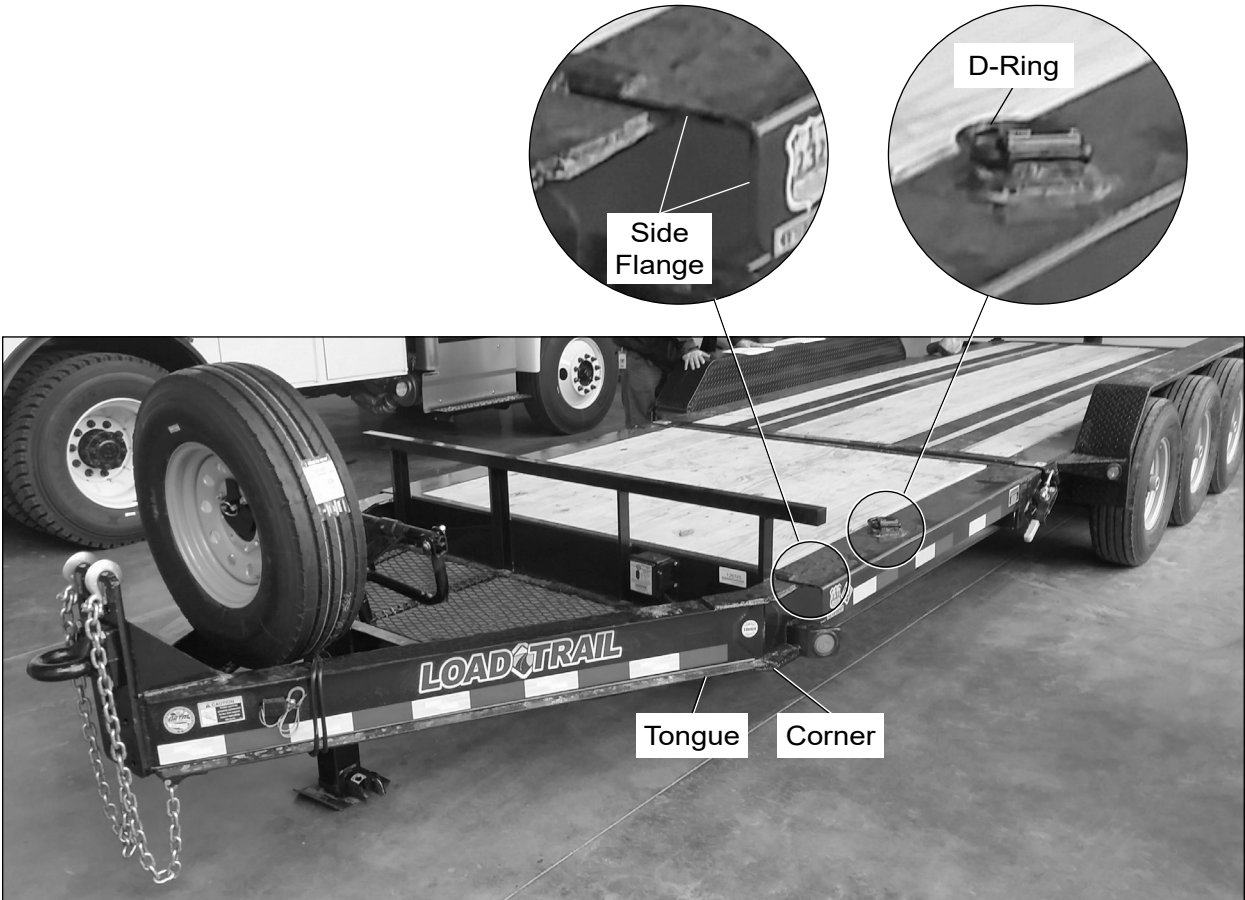

Figure 9 – Load Trail Revision B Trailer With Side Flanges
2. On a Revision B trailer with side flanges, the angled tongue frame rails connect at the corners of the stationary cargo deck and the D-ring mounting plates are centered on top of side flanges that are installed over the top plates of the cargo deck frame rails (refer to Figure 9). This type of trailer requires the D-Rings Kit for Load Trail Trailer Revision B With Side Flanges, part number 991342028.